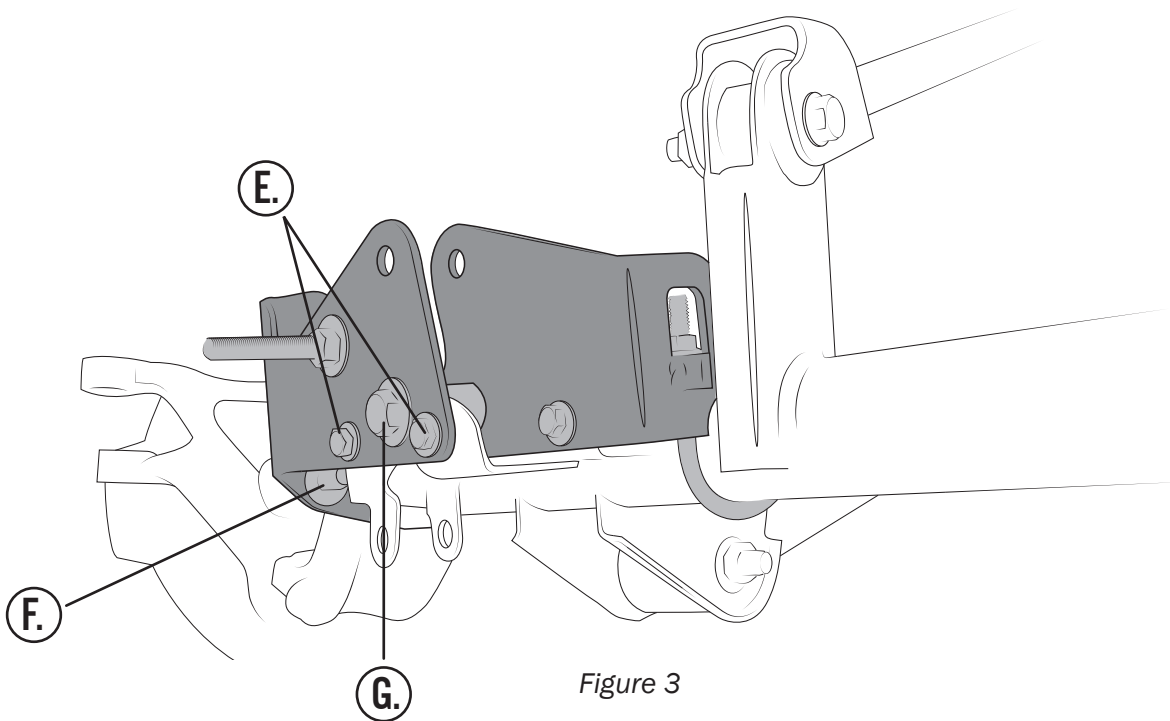

Figure 3
- B. Add the supplied u-bolt and nuts (visible in Fig. 3)